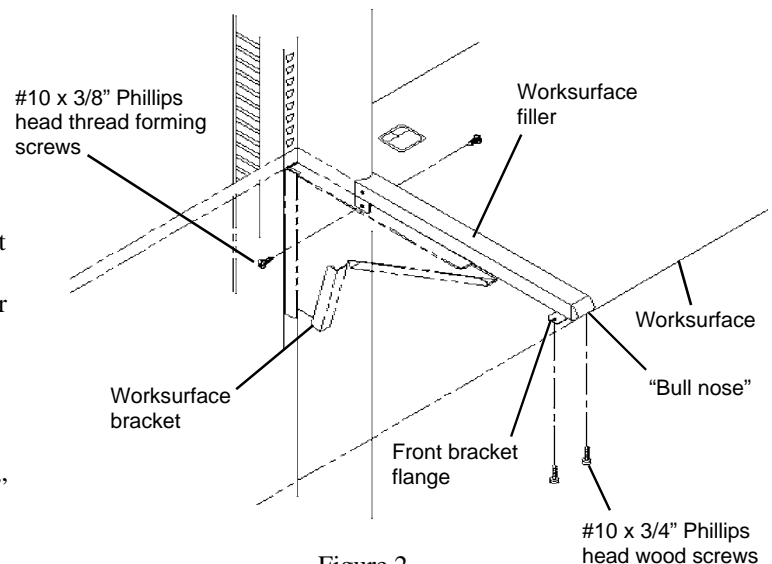

Figure 2
2. Attach the Filler using two #10 x 3/4" Phillips head wood screws at the front bracket. Use two #10 x 3/8" Phillips head thread forming screws to attach the rear of the filler to the worksurface brackets. See **Figure 2**.